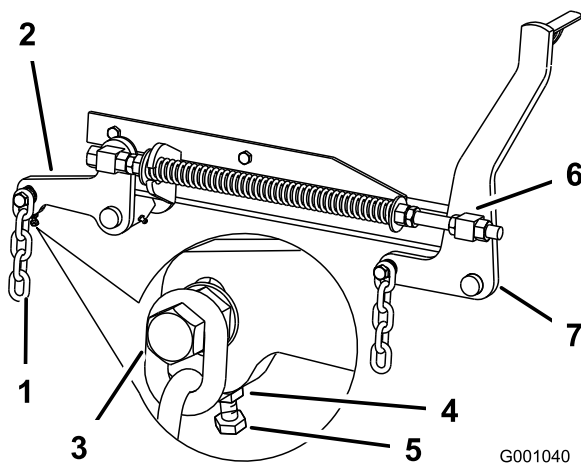

Figure 69
7. If the measurements at positions **B** or **C** are not correct, loosen the bolt attaching the rear chain to the rear support arm (Figure 69).
8. Loosen the jam nut under the rear support arm and adjust the adjustment bolt to get a measurement of 3-1/8 to 3-1/4 inches (80 to 83 mm)(Figure 69).
7. Loosen the front swivel jam nuts, at the front of the right and left swivels, approximately a 1/2 inch (13 mm) (Figure 69).
8. Adjust the lift nuts on both the left and the right side of the machine to achieve 1/4 to 3/8 inch (6 to 10 mm) lower in front at **A** than in the rear at **B** (Figure 69).